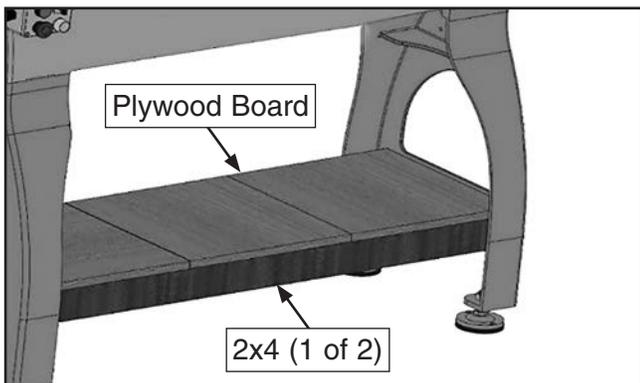

Figure 17. Boards installed and secured in shelving option two.
1. Set two 2x4 (or 2x6) boards on edge in lower brackets of leg castings (see **Figure 17**).
2. Cut plywood board (see **Figure 17**) to fit flush with outside edges of 2x4s and secure with wood screws.